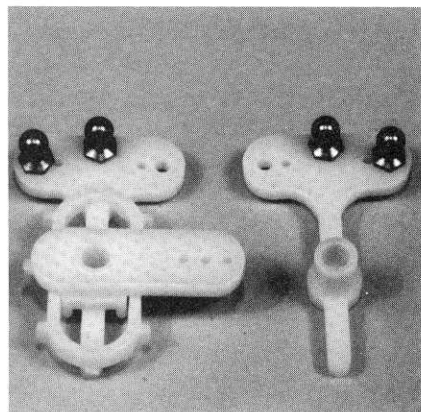

Fig. 21
- Fig. 21** and install it to the servo saver, as shown.